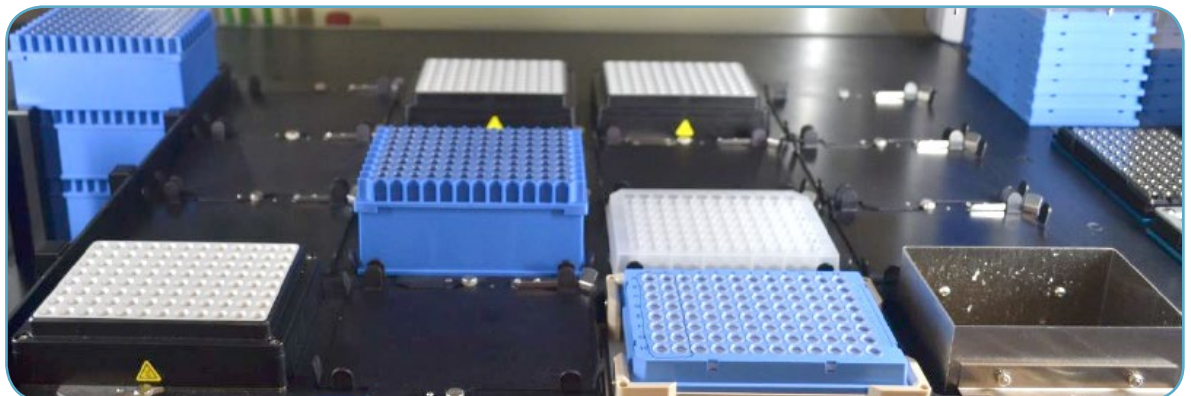

Figure 5. Deck layout for the Hybridization Setup
5. Follow the on-screen instructions to set up the deck, as shown in Figure 5.